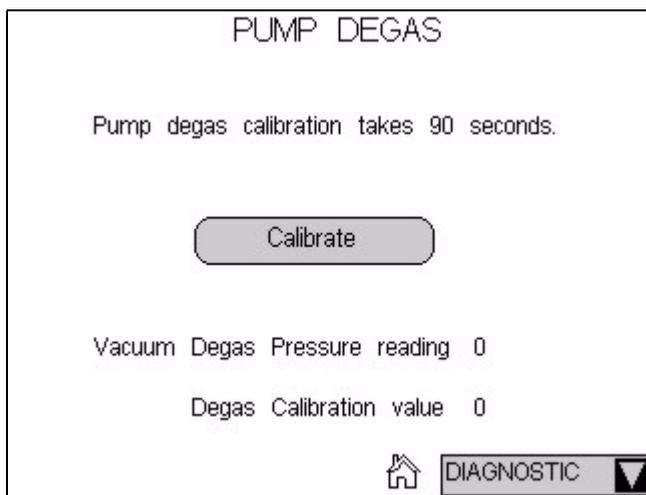

Figure 5-6. Pump Degas Page
1. Open the ICS-1500 Wellness Panel in Chromeleon (see Section 5.1.1), or open the ICS-1500 touch screen **PUMP DEGAS** page (see Figure 5-6).